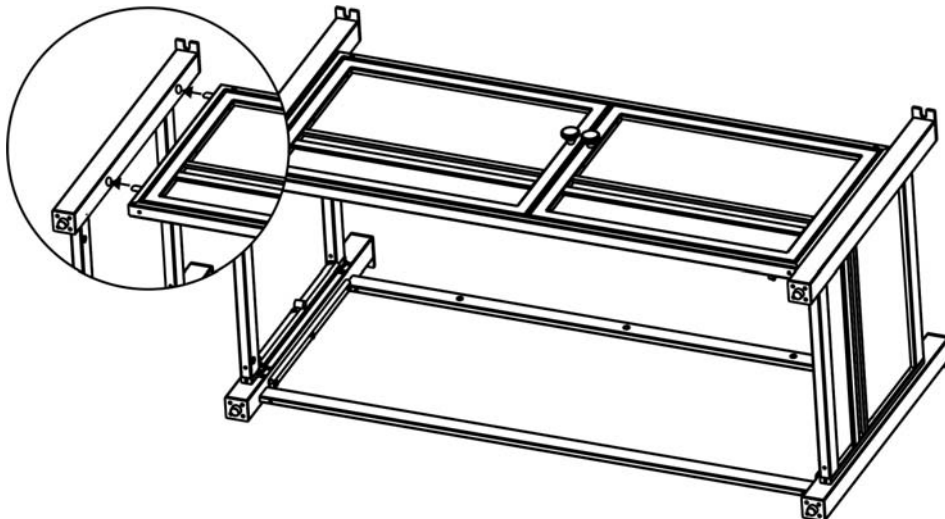

Figure 3
3. Connect the door panel to the back panel as shown in Figure 3.